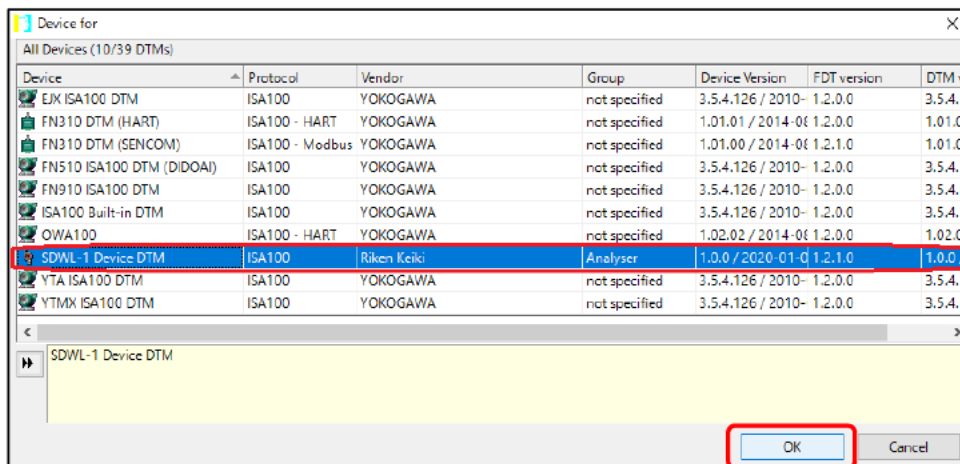

Figure 5-28 Selecting SDWL-1 DTM
- ⑦ Select "SDWL-1 Device DTM" (DTM for the SDWL-1) from the device list. (Figure 5-28)